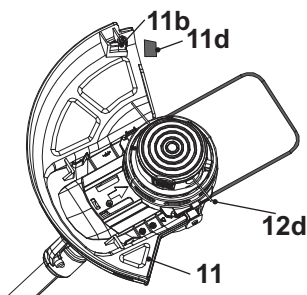

Fig. 14
The guard (11) protects the operator against thrown objects during operation. It is equipped with a knife (11b) that cuts the trimming lines (12d) (Fig. 14).